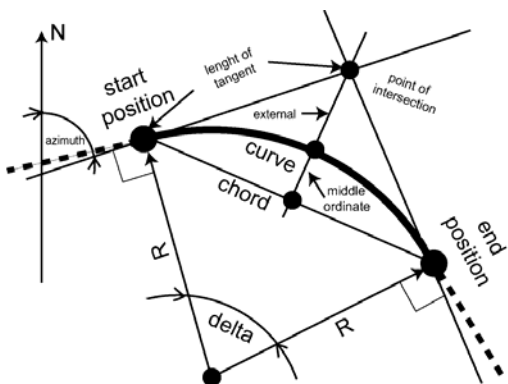

Figure 9-47. Curve Parameters
3. Enter the following parameters for the curve (Figure 9-47):